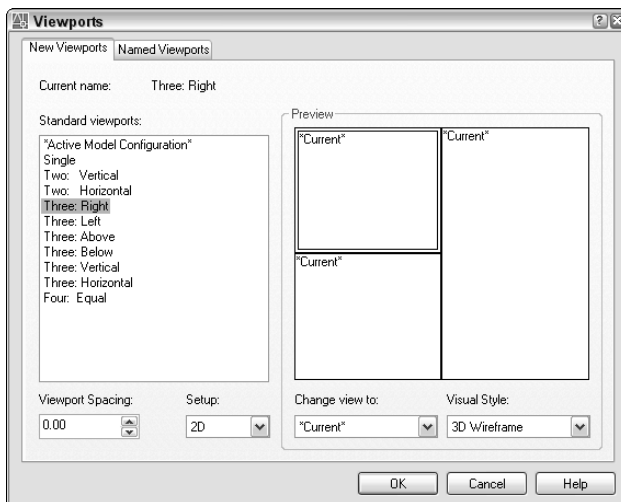

**Figure 17-11:** Use the Viewports dialog box to choose one of the standard configurations of floating viewports.
- ♦ **New Viewports:** Choose this item to open the Viewports dialog box, shown in Figure 17-11. Choose one of the standard configurations, which you can see in the Preview box. Click OK to create the viewports.